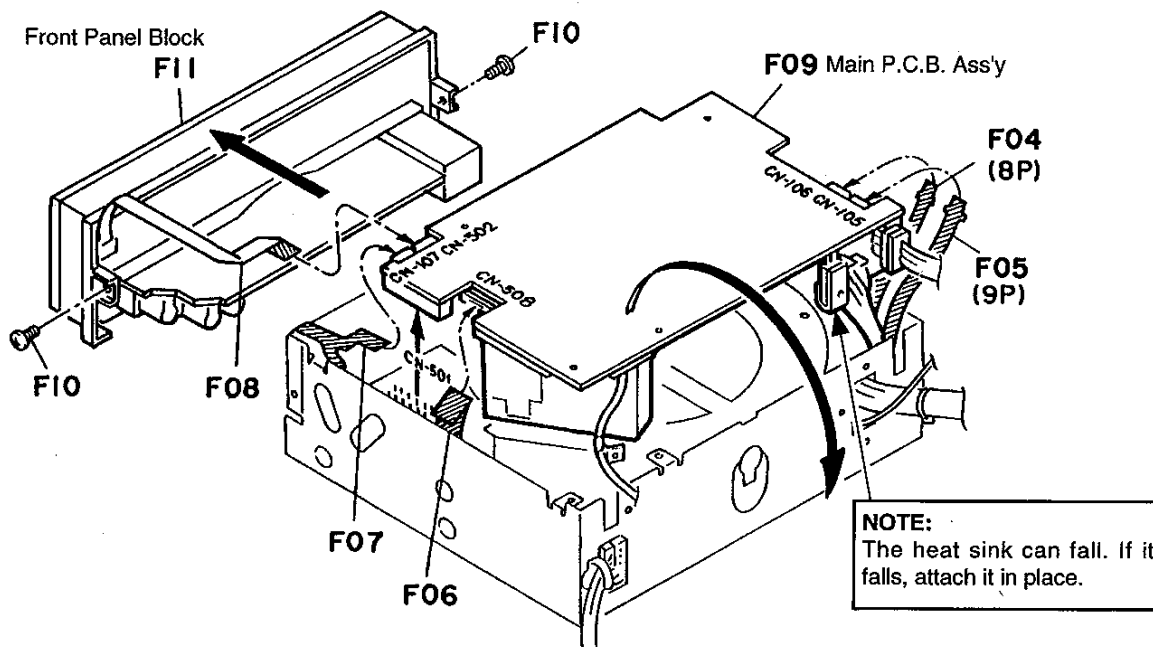

Fig. 2.2.2
- (3) Gently lift the CN-501 part (the right front part) of F09 (Main P.C.B. Ass'y) to disconnect CN-501 from the CD P.C.B. Ass'y on the Mechanism Ass'y. Refer to Fig. 2.2.2.